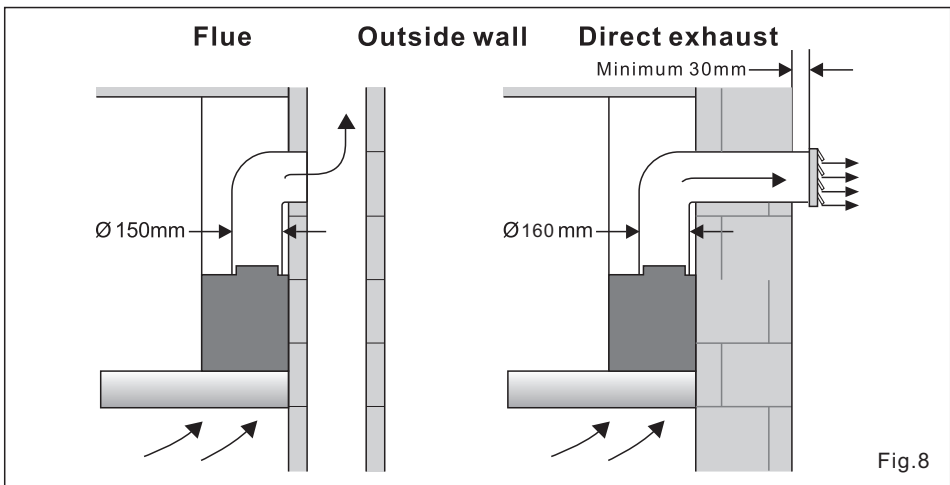

Fig.8
- Connect the other end of the hose to a shared flue or external wall hole as shown in Fig8.